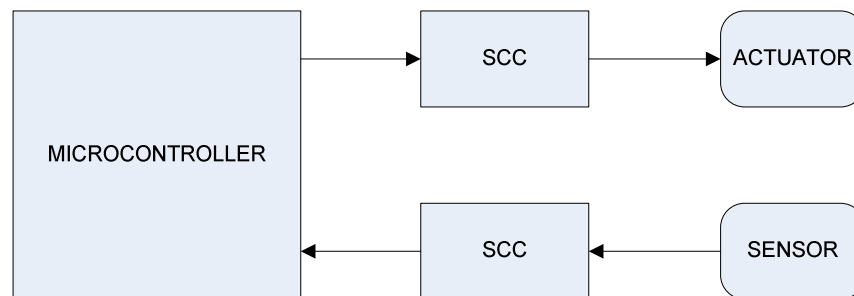

Figure 1: The Basic Embedded System Model
- **Figure 1** is a basic model used to diagram embedded systems that use microcontrollers.